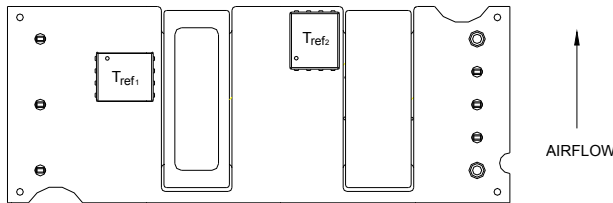
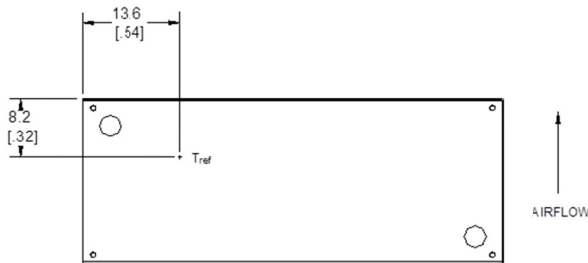

Figure 13.  $T_{ref}$  Temperature Measurement Locations for Open Frame Module.
Figure 14.  $T_{ref}$  Temperature Measurement Location for Module with Heatplate.
To provide protection under certain fault conditions, the unit is equipped with a thermal shutdown circuit. The unit will shutdown if the thermal reference points,  $T_{ref}$ , exceed 135 °C (Figure 13, typical) or 120 °C (Figure 14, typical) respectively, but the thermal shutdown is not intended as a guarantee that the unit will survive temperatures beyond its rating. The module will automatically restart upon cool-down to a safe temperature.
The thermal reference points,  $T_{ref1}$ , and  $T_{ref2}$  used in the specifications for open frame modules are shown in Figure 13. For reliable operation these temperatures should not exceed 124 °C & 121 °C respectively
The thermal reference point,  $T_{ref}$ , used in the specifications for modules with heatplate is shown in Figure 14. For reliable operation this temperature should not exceed 98°C.